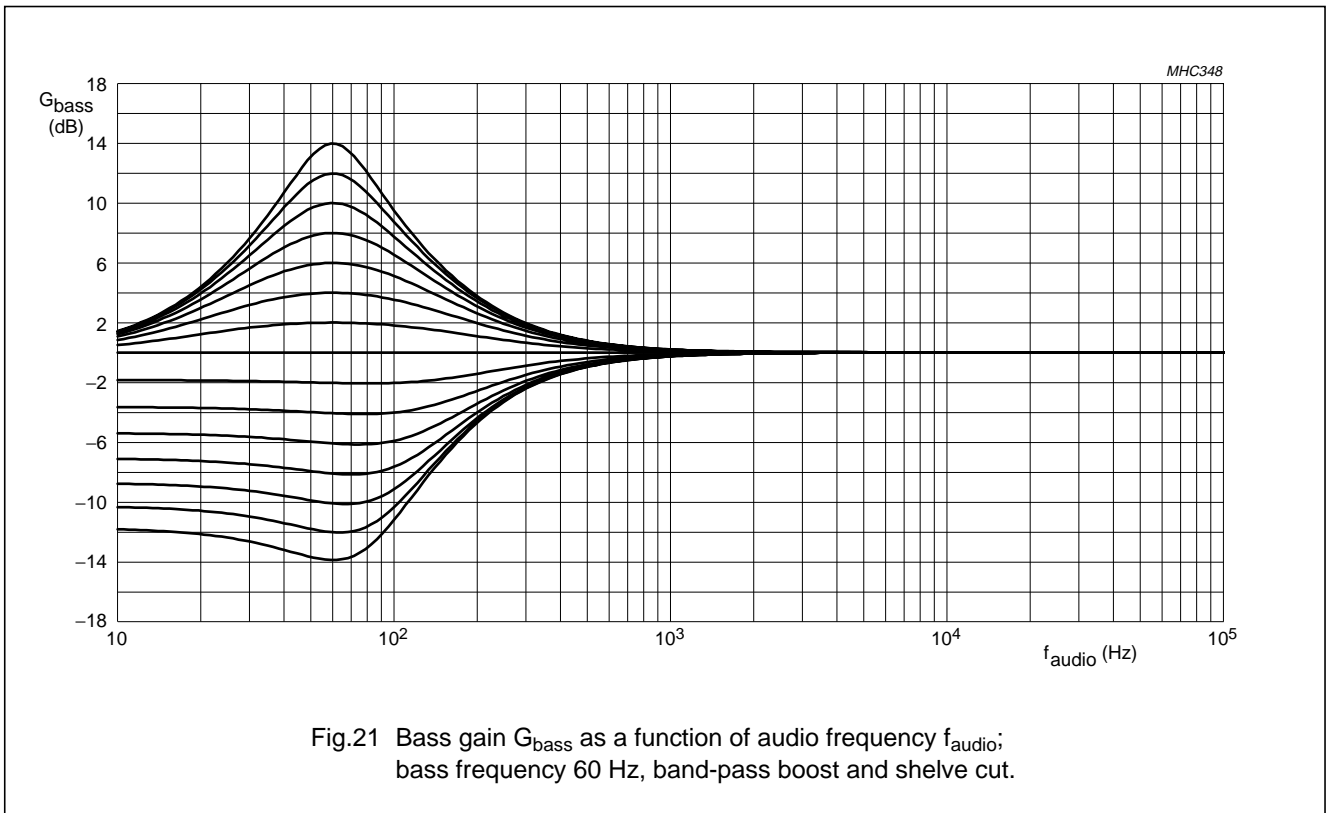

Fig.21 Bass gain  $G_{\text{bass}}$  as a function of audio frequency  $f_{\text{audio}}$ ; bass frequency 60 Hz, band-pass boost and shelf cut.
**Table 55** Description of data byte FH, see Figs 21 and 22